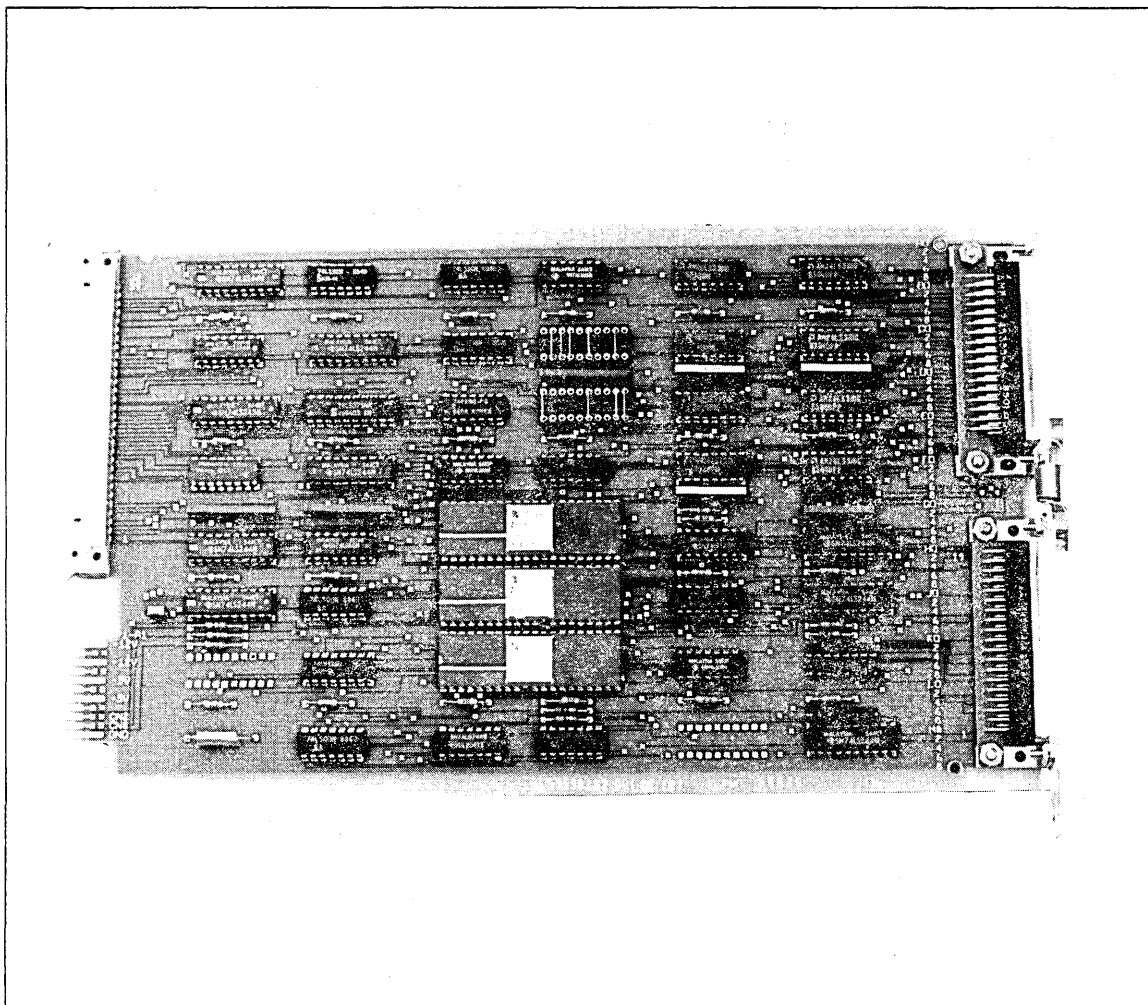

Figure 1-32. URI Board
2. Unpack the URI boards (shown in figure 1-32), the equipment labels, and the FCO labels.